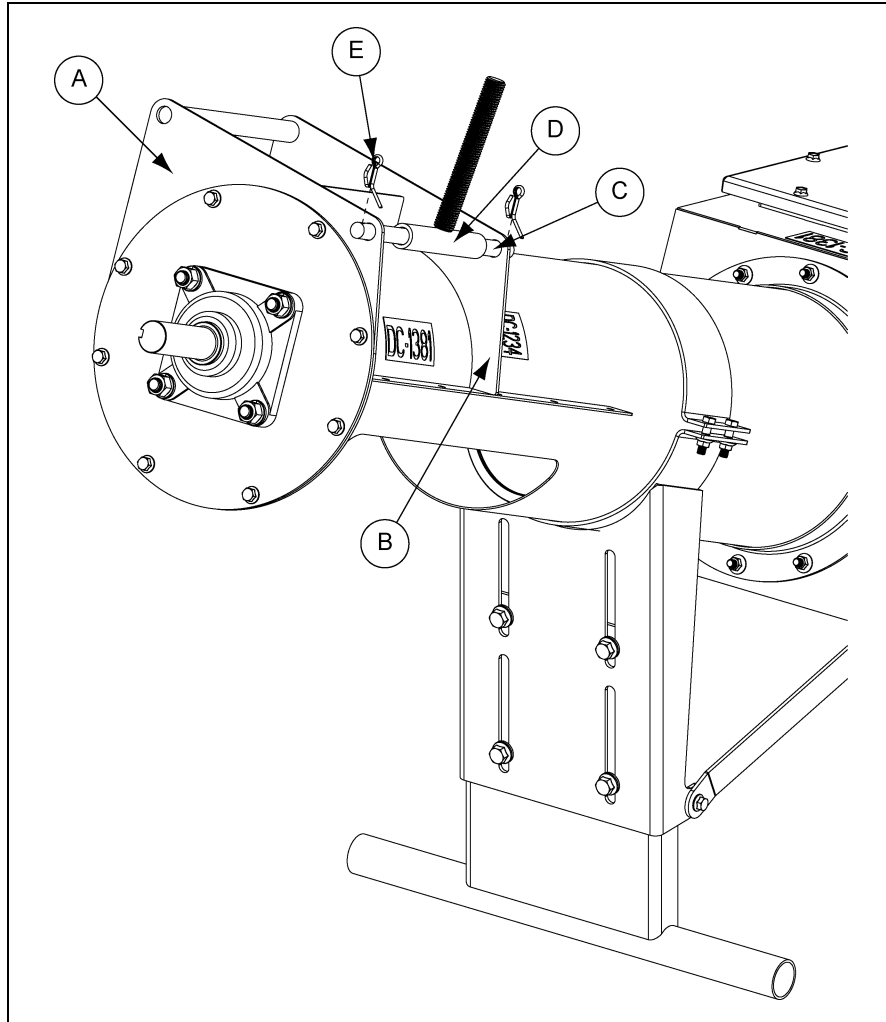

Figure 4D
1. Place motor mount adjuster (D) between the head plate (A) and back plate (B) on the discharge tube.
2. Insert pivot rod (C) through the tube plates and motor mount adjuster (D). Secure in place with two (2) 3/16" x 2" cotter pins (E). (See Figure 4D.)